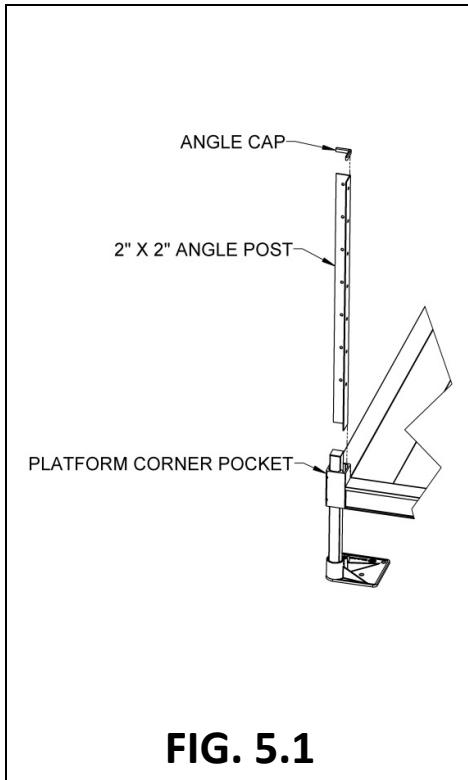

FIG. 5.1
- 5.2. If installing on a platform in the "turn" configuration, install the 2" x 2" angle post not attached to a platform handrail in the open platform corner pocket (FIG. 5.1). Align the bottom of the post with the bottom of the corner pocket and tighten the set screws securely.
- 5.3. Install an angle cap on top of the handrail post (FIG. 5.1). Use construction adhesive to bond the cap in place.